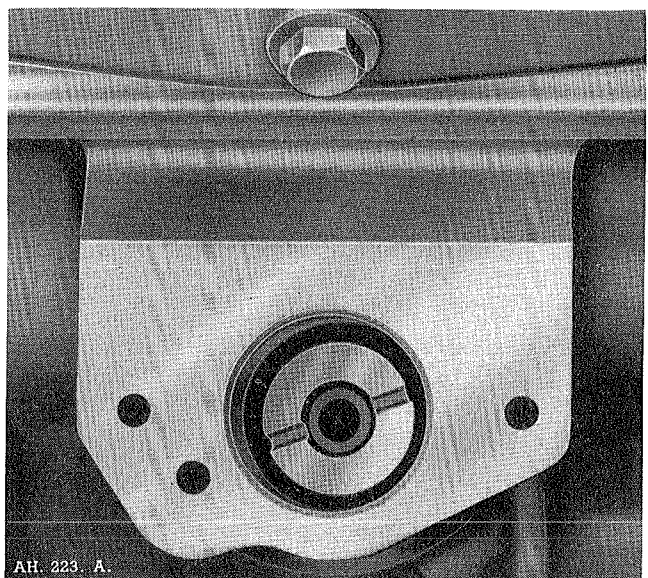

Fig. B.4. Distributor drive, showing the slot in the "Twenty-to-two" position.
- (4) Screw the $\frac{5}{16}$ in. U.N.F. bolt into the threaded end of the distributor drive and replace the drive in the block so that the centrally cut slot takes up the position shown in Fig. B.4 (*i.e.* "twenty-two" position).
- (5) Replace the tachometer housing, rotating the external drive dog until it mates up with the slot